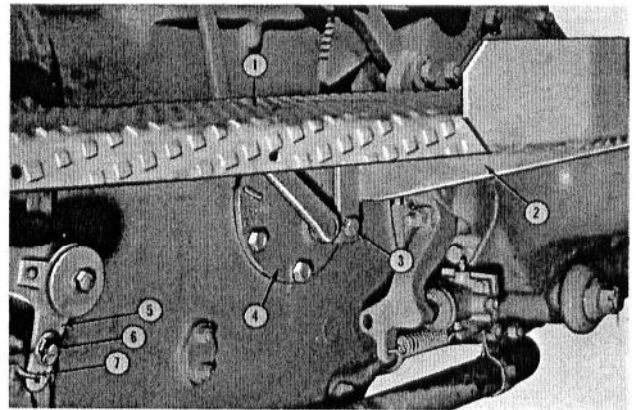

FIG. 6 — L.H. SIDE — DRIVE AXLE
5. Disconnect or loosen exhaust pipe. Refer to Figs. 6 and 7.
REMOVAL — Refer to Figs. 6 and 7.